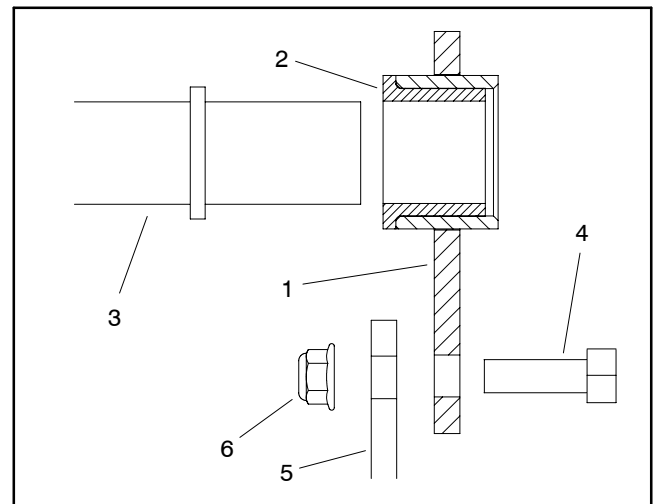

Figure 42
**NOTE:** The pivot (item 9) includes a flange bushing. Make sure that when pivot is installed to machine, the bushing flange is orientated toward center of machine (Fig. 42).
- B. On both sides of machine, slide pivot (item 9) onto rear cover subframe pivot and secure pivot to frame with two (2) cap screws and flange nuts.
- C. On both sides of machine, secure rear cover subframe hoop (item 2) to machine frame with two (2) cap screws, flat washers and flange nuts.